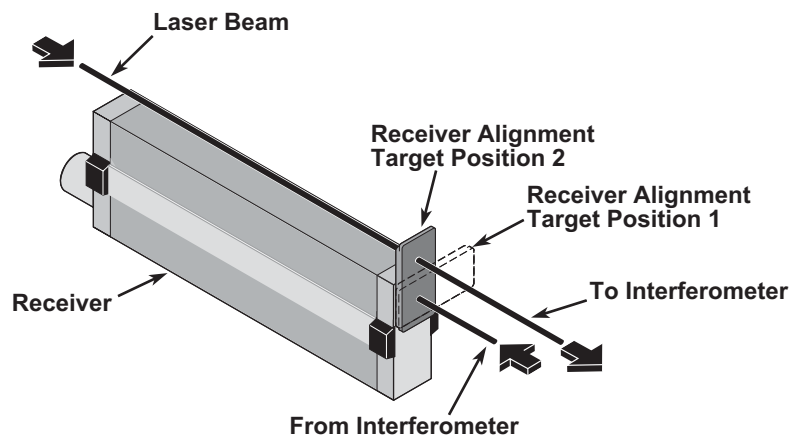

Figure 126 Receiver and receiver alignment target
- 1 Place the interferometer alignment target on the laser side of the Y-axis plane mirror interferometer and place the receiver alignment target on the receiver (Figure 126, position 1). Place a piece of opaque material such as translucent tape between the Y-axis plane mirror interferometer and the mirror.
- 12 With the laser head turret in the large aperture position, place the plane mirror interferometer alignment target on the laser head side of the X-axis plane mirror interferometer and the receiver alignment target on the receiver (Figure 126, position 1). Place a piece of opaque material between the X-axis plane mirror interferometer and the mirror.